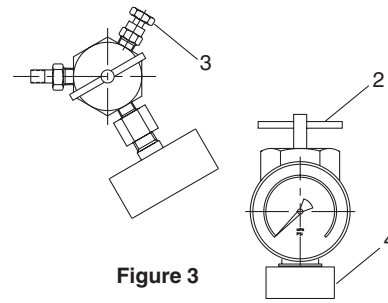

Figure 3
- B Refer to Figure 3. Turn the charging device "T" handle (2) all the way in (clockwise) attach charging and gauging head assembly by screwing mounting nut (4) to the gas end of the Diaphragm accumulator.
- C Close bleed valve (3).
- D Turn "T" handle (2) in counterclockwise motion until rotation stops.
- E When finished checking the pre-charge, turn "T" handle (2) clockwise all the way, then open bleed valve (3) to bleed all residual pressure from the charging device.
- F Hold "T" handle (2) to keep from turning, loosen nut (4), remove the assembly from the accumulator.
For accumulators having gas valve as shown in Figure 5, attach gauging assembly as shown in Figure 3 following Steps A through D. Then, open bleed valve (3) until all gas pre-charge is relieved from accumulator. Then remove gauging assembly. The accumulator is now safe to remove from the system.